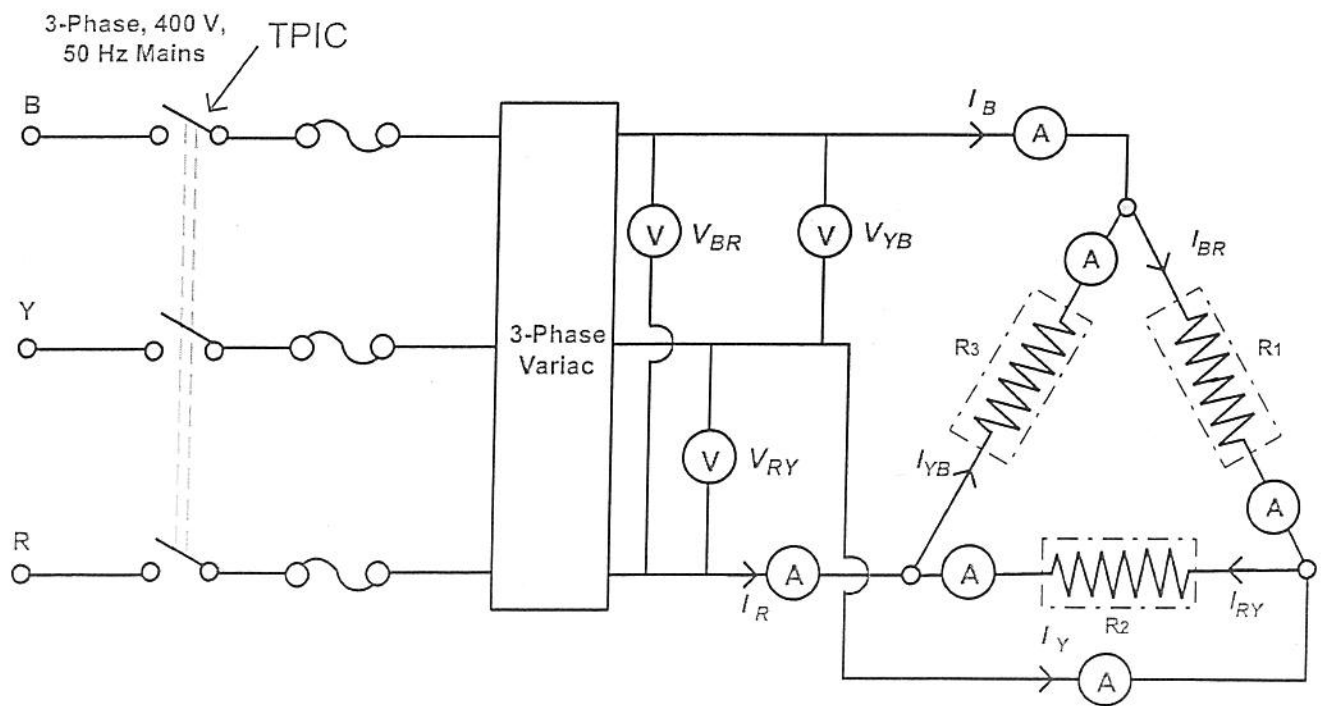

Fig : 7.4 Circuit Diagram Of 3-Phase Supplu and Delta Connected Load
- 1) Make the circuit connection as shown in Fig.7.4